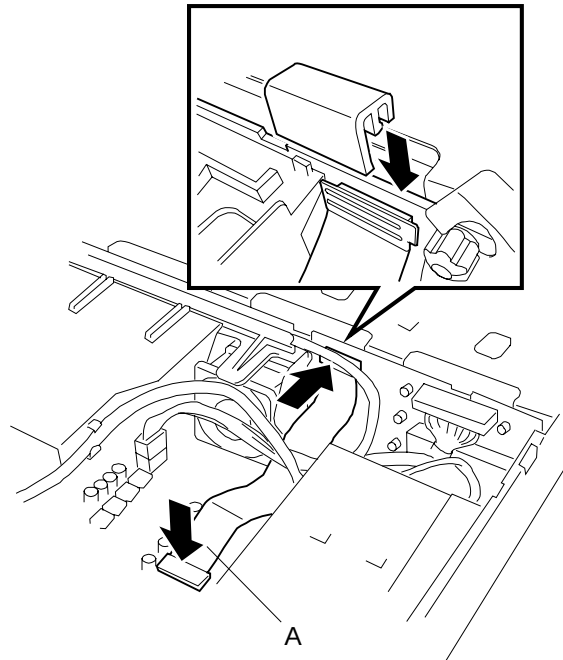

Figure 4-1 Checking the FPC Cable
- Reinstalling removed components exactly as they were. Install the components and cables that were removed and disconnected exactly as they were. The server may malfunction if certain components are not reinstalled or if cables are not connected properly. In particular, make sure that the FPC cable (Figure 4-1, A) is firmly connected. Be sure to securely install the components and connect the cables.